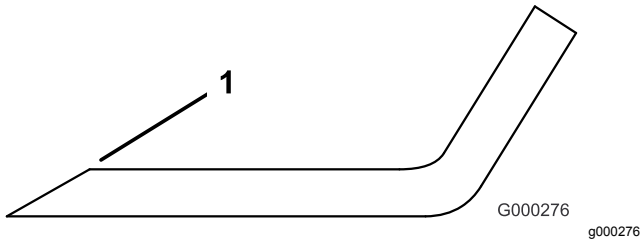

Figure 119
3. Examine the cutting edges of all of the blades and sharpen the cutting edges if they are dull or nicked (Figure 119).
Note: Sharpen only the top of the cutting edge and maintain the original cutting angle to ensure sharpness (Figure 119). The blade remains balanced if you remove the same amount of metal from both cutting edges.